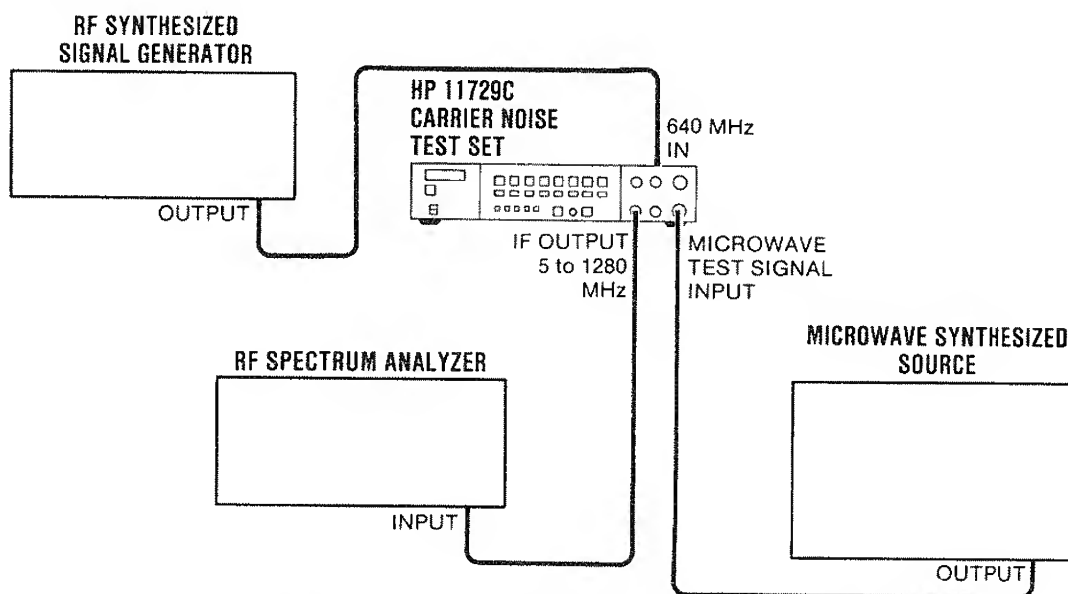

Figure 4-1. Measurement Frequency Range, and IF Output Bandwidth and Level Test Set-up
1. Connect the test set up shown in Figure 4-1.